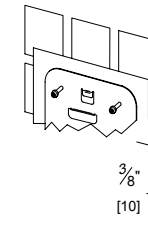

Fig.2
- 4.4 Insert two (2) pan head screws (# 8 x 1-1/2 self tapping, by others) into top two (2) plastic anchors leaving 3/8" (10) space under head to wall (Fig.2).